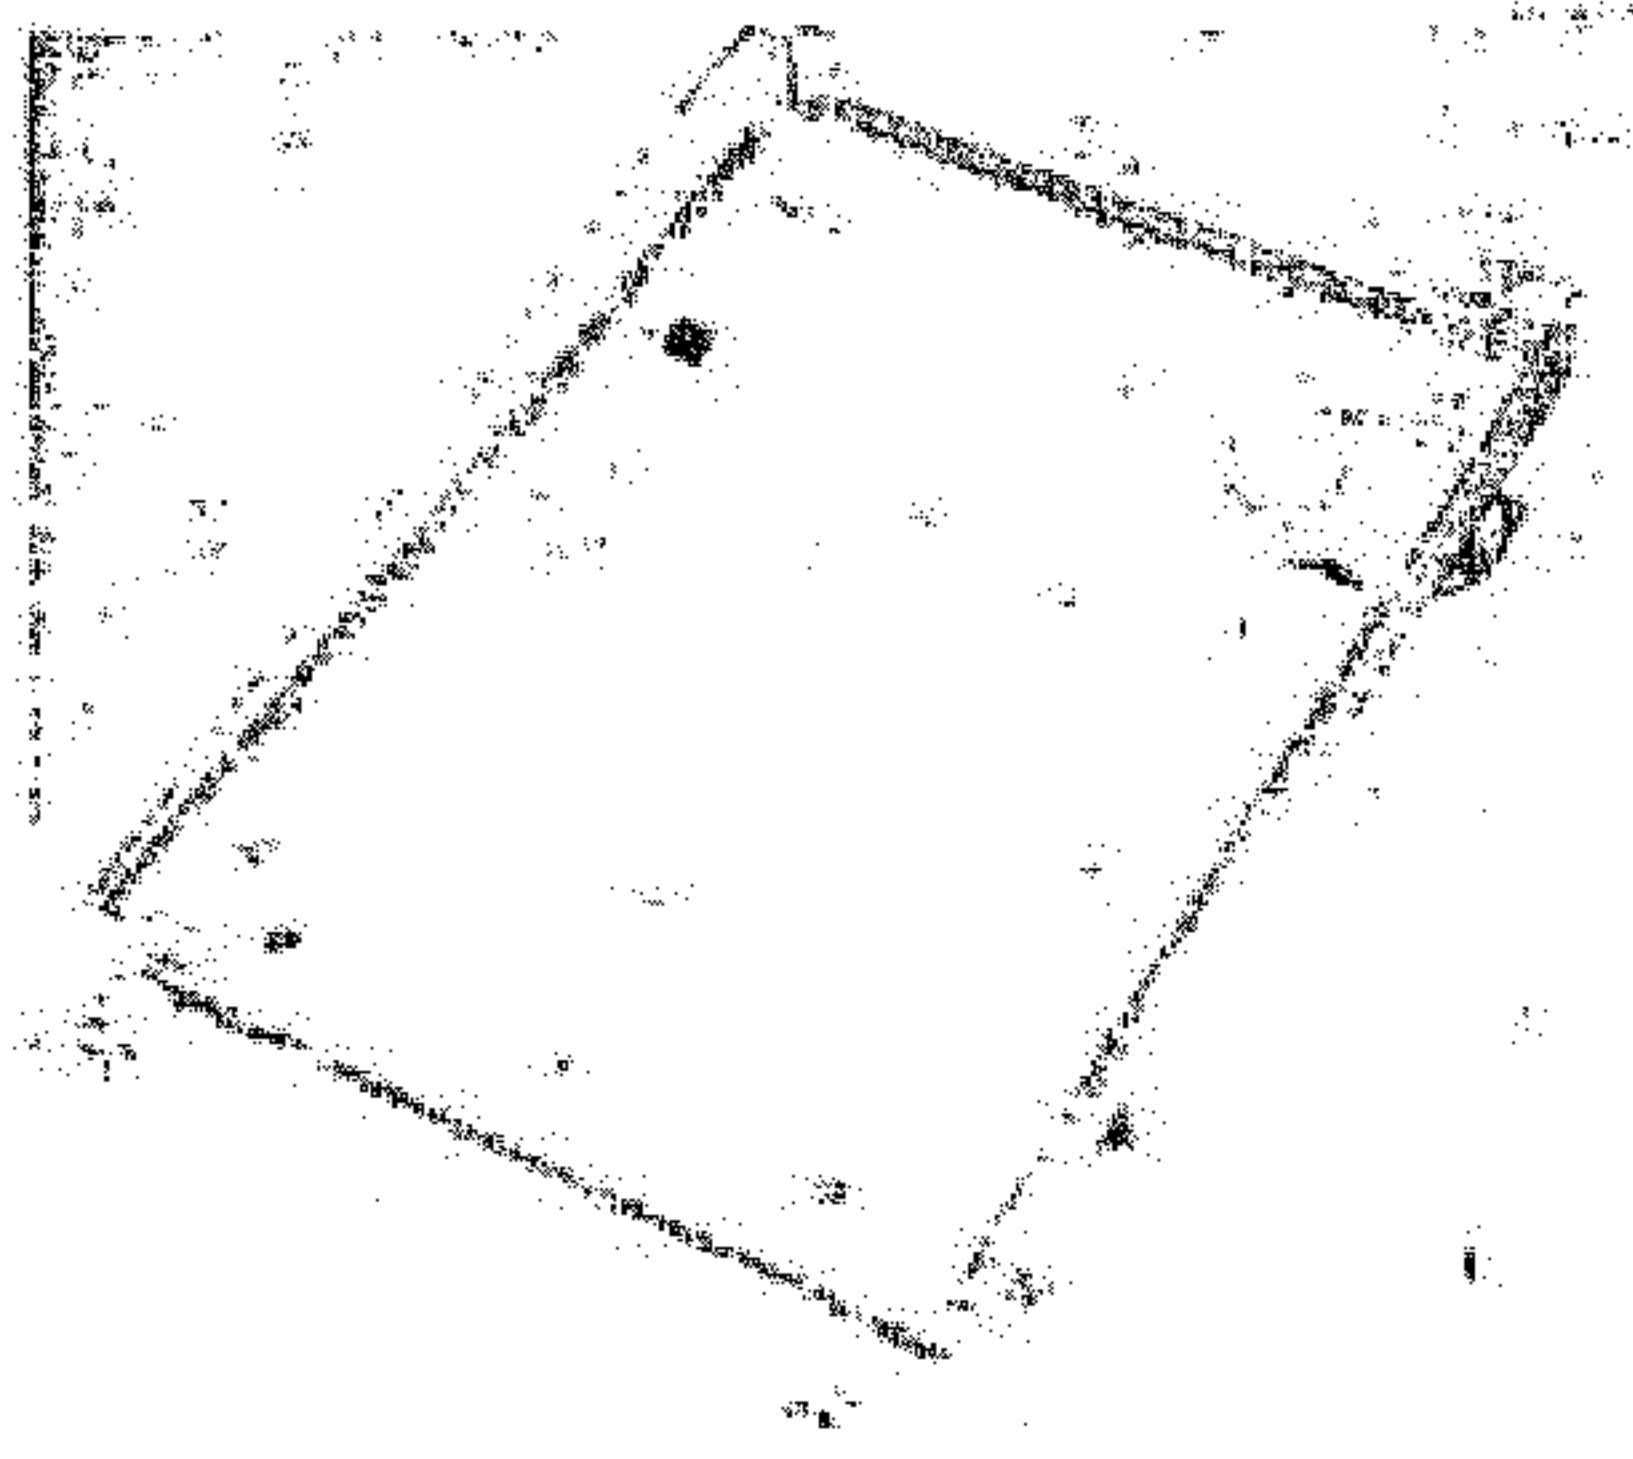

Figure 1-4. Mounting MT-273( )/ARN-6
b. MOUNTING MT-273( )\* ARN-6. (See figures 1-4 and 1-5.)—Mounting MT-273( ) ARN-6 is an aluminum frame, shock mounted, with a built-in junction board and control switch relay at the base. A female connector strip located in the back of the mounting is used for making electrical connections with a similar connector strip on the back of the radio compass unit as it is slid into the mounting. Two locking knobs on the front of the mounting are used to